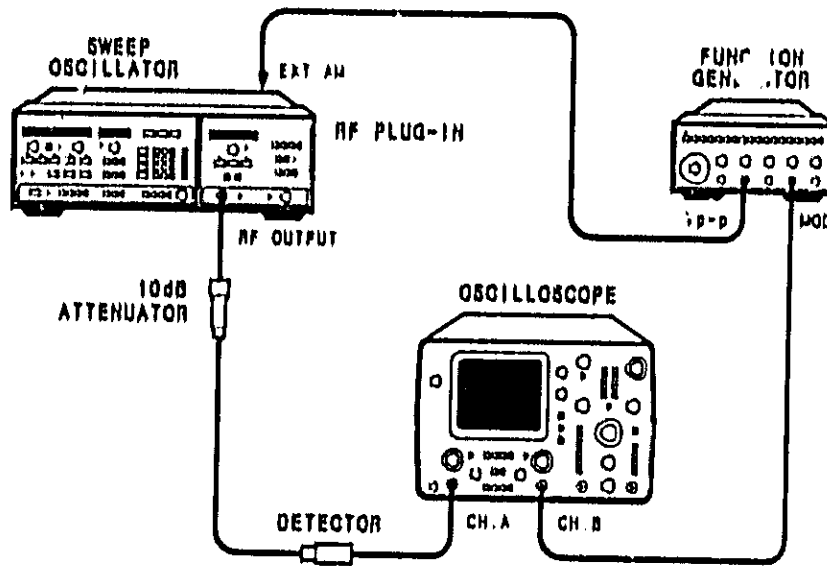

Figure 5-25. ALC Gain Adjustment Test Setup
4. Connect equipment as shown in Figure 5-25.